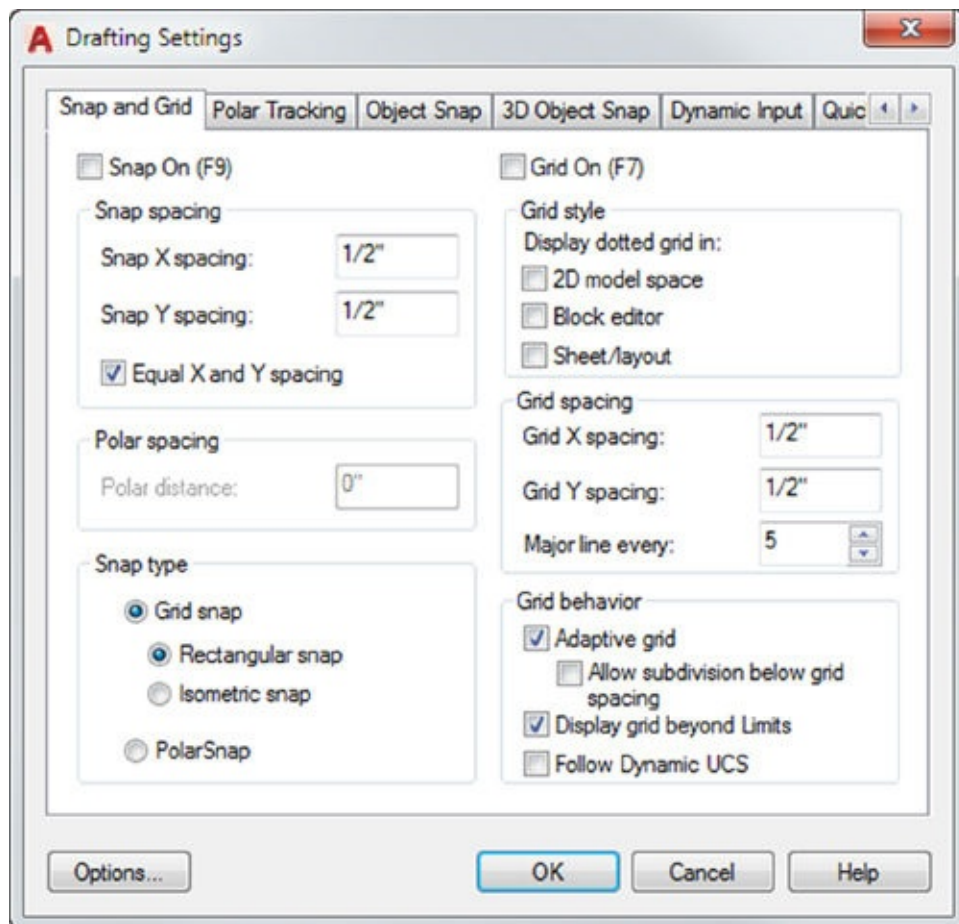

FIGURE 3.24 The Snap And Grid tab of the Drafting Settings dialog box
2. Click the Snap And Grid tab if it isn't already selected. You will see six groups: Snap Spacing, Grid Style, Grid Spacing, Polar Spacing, Grid Behavior, and Snap Type. Notice that the Grid X Spacing text box contains a value of 1/2", or 0.5. Metric users see a value of 10 (see Figure 3.24).